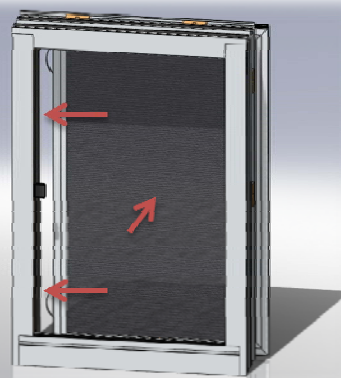

Fig. A-6
2. Screen is to be installed first. Put screen thru frame, springs on left-hand side and sticker facing you on bottom rail. Insert spring side into frame first and rock into place. (FIG A-6)